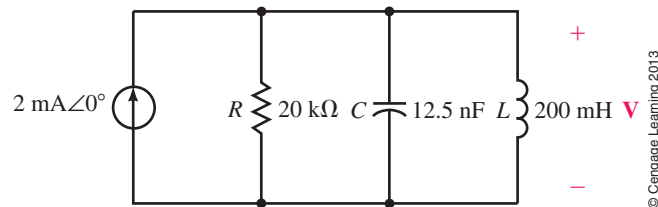

FIGURE 21–65
25. Refer to the circuit shown in Figure 21–66.